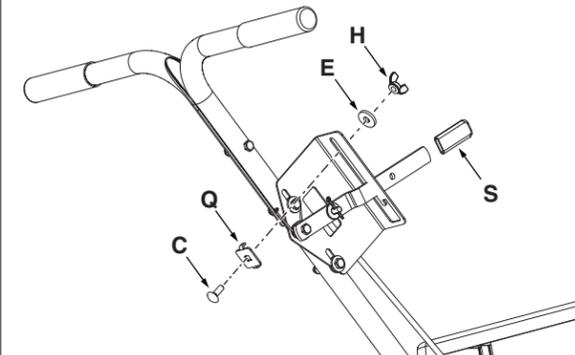

Figure 18
STEP 18: (SEE FIGURE 18)
- Assemble the adjustable stop (Q) to the control bracket using a 1/4" carriage bolt (C) through the stop (Q) and through the slot in the control bracket. Secure on the other side with a nylon washer (E) and a nylon wing nut (H). Slide the control arm grip (S) onto the control arm.